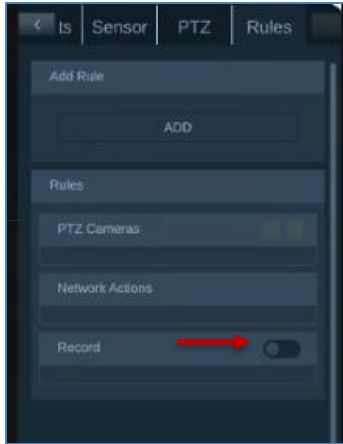

Figure 92. Record Toggle on Rules Tab
2. Set the **Rules Recording** switch to OFF. See Figure 92. Record Toggle on Rules Tab.